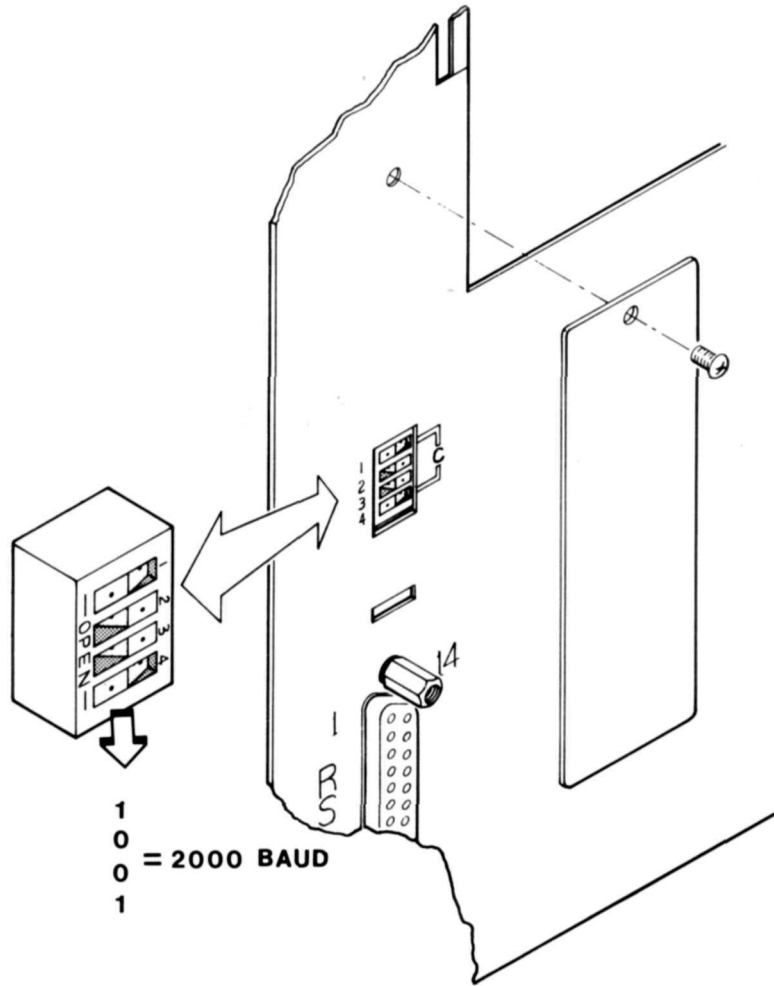

Figure 7. Baud Rate Switch Positions
- ① **DIP Switches** Position the DIP Switches to set the baud rate. The DIP Switches are located behind the metal plate (see Figure 7 for details). The CR-510's baud rate must match the baud rate of the Computer. (See Setting Up the CR-510 for details.)
- ② **RS-232C Connector** Connect the CR-510 to the TRS-80 via this connector using the appropriate interface.
- ③ **Power ON/OFF Switch** To turn the CR-510 power ON, set this switch to ON. (When power is applied, a unit Self-Test is automatically run.)
- ④ **Power Cord Connector** Plug the AC Power cord included with package into this connector.
- ⑤ **Fuse Holder** The fuse provides unit overload protection. Replace with a 1 amp slo-blo fuse for 110 VAC.
If all of the switches are set to the LEFT, for instance, 50 is the baud rate. If switches 1 and 4 are to the RIGHT and 2 and 3 are to the LEFT, 2000 is the baud rate, as shown in Figure 7. See Table 1.